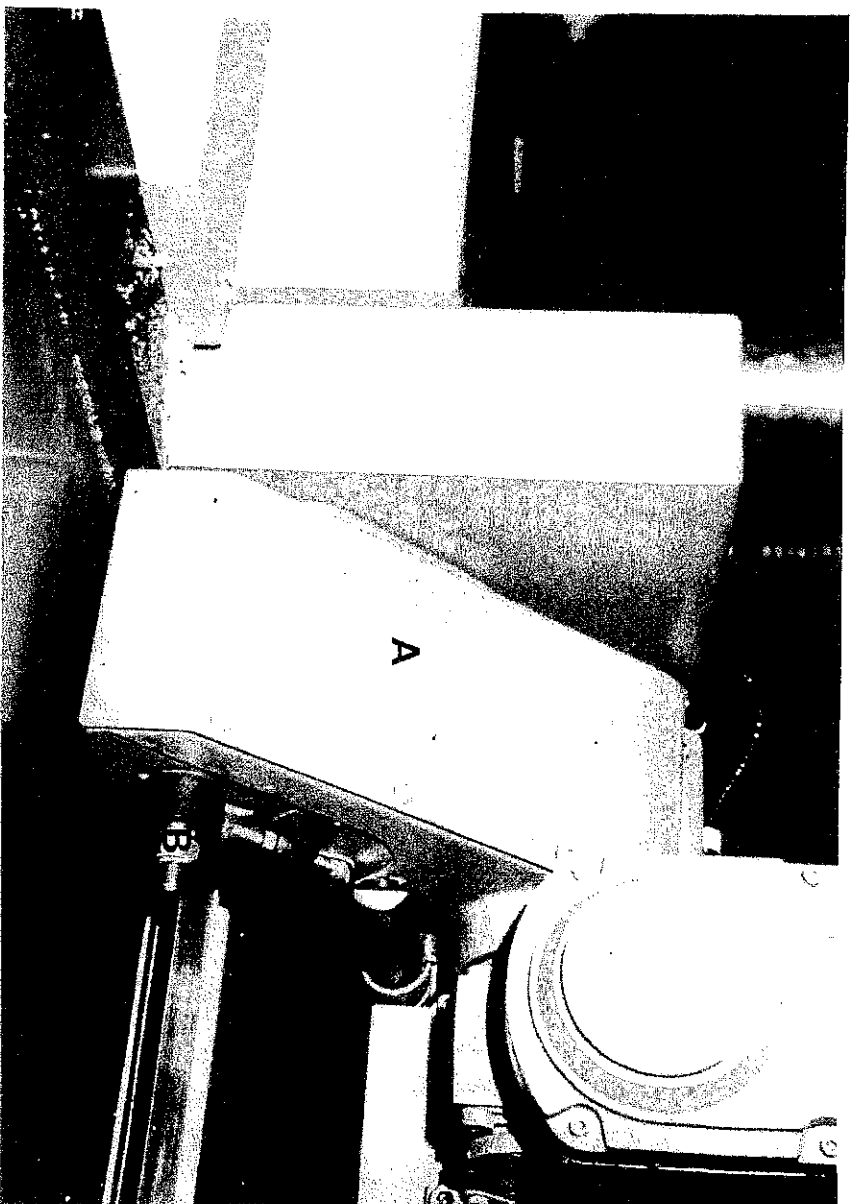

FIG. 22
- b) Remove 3 - M6 button head screws from cover "A" FIG.22. Remove cover.
- c) Loosen M12 aerotight nut "B" FIG.22.